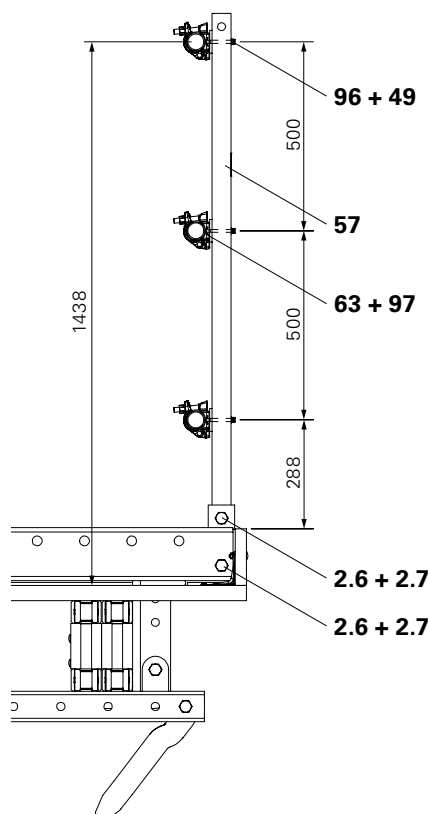

Fig. B1.19b
1. Fix Guardrail Post SCS 150 (57) to Crossbeam Unit SCS 250 (2) using bolts ISO M20 x 120-8.8 (2.6) and nuts ISO 7040 M20-8 (2.7).
2. Mount Guardrail Connector CB (63) to Guardrail Post SCS 150 (57) using F.H. bolt DIN 603 M8 x 100 MU (96) and washer ISO 7094 200 HV A8 (49).
3. Position Scaffold Tube Steel (97) and secure. (Fig. B1.19b)